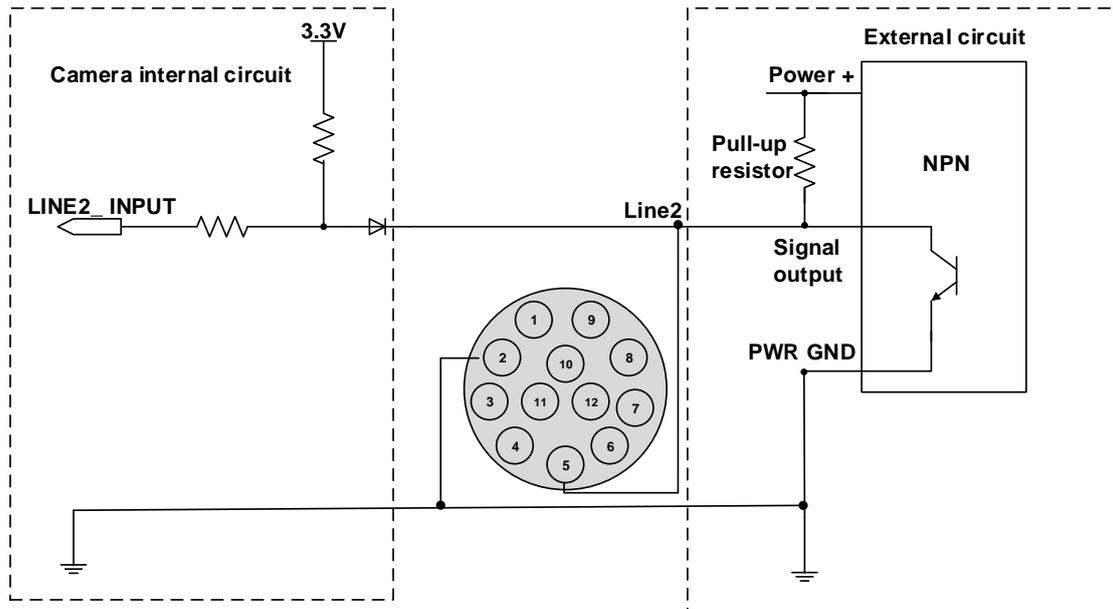
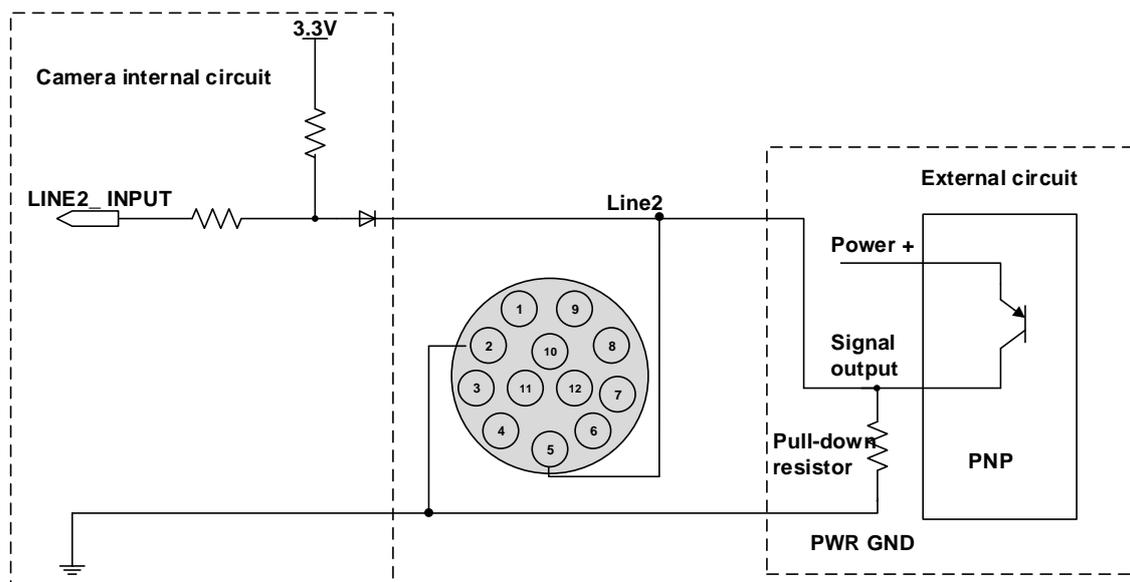

Figure 7-10 NPN photoelectric sensor connected to Line2 input circuit
Figure 7-11 PNP photoelectric sensor connected to Line2 input circuit
- When input of Line2/3 is high, input current is lower than 100μA. When input of Line2/3 is low, input current is lower than -1mA. When Line2 is configured as input. The connection method between them and NPN and PNP photoelectric sensors is shown in Figure 7-10 and Figure 7-11. The relationship between the pull-up resistor value and the external input voltage is shown in Table 7-3